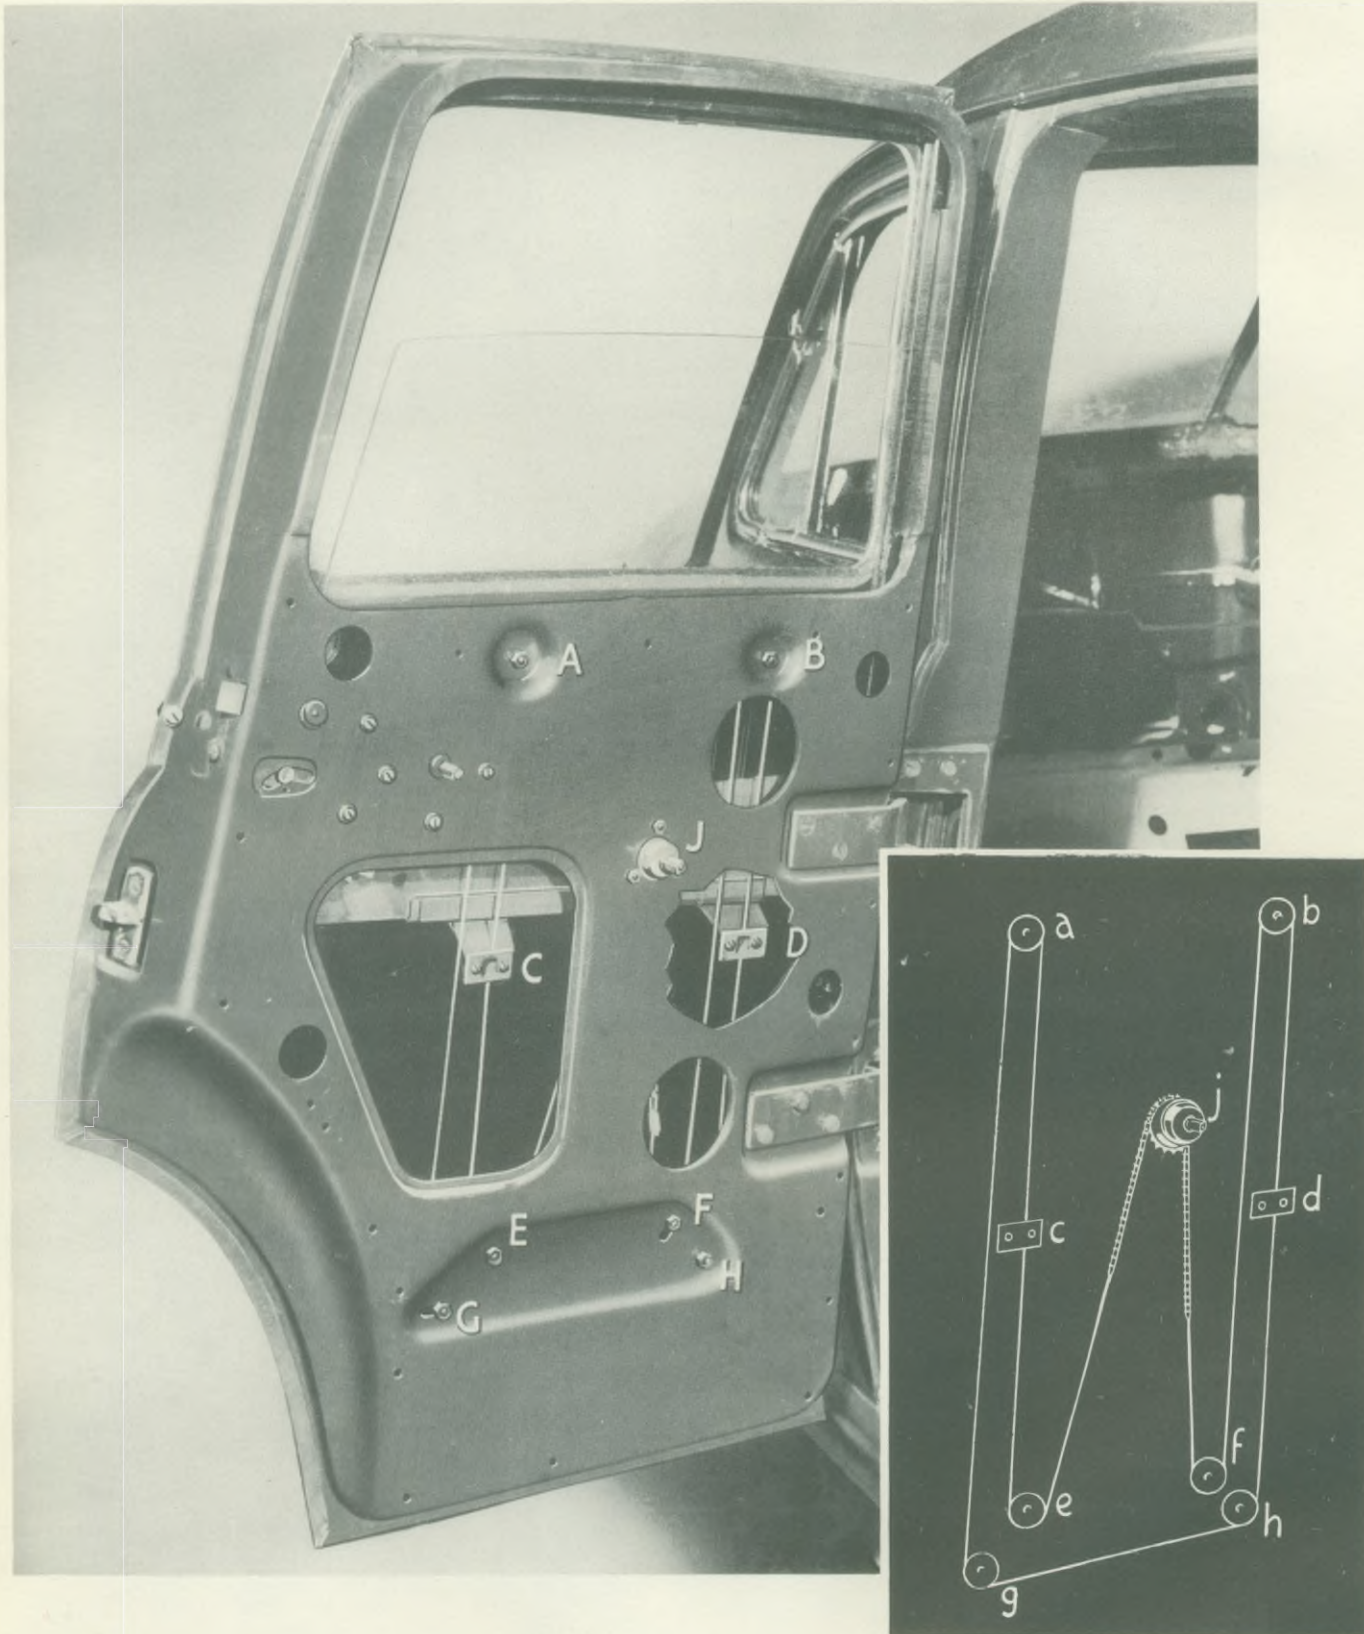

Fig. 10. Partially stripped rear door showing layout of window regulator mechanism and cable tension adjustment pulleys.
Proceed as with front door (1) and (2), then release door glass lifting channel from window regulator cable at points 'C' and 'D' in Fig. 10.
For adjusting the tension of the window regulator mechanism cable, two of the lower pulleys are bolted in slots as shown at 'F' and 'G' in Fig. 10. Cable tension adjustment is affected at these two points by slackening off the nuts, moving the pulley spindles in their slots until cable is taut and locking up the nuts again.